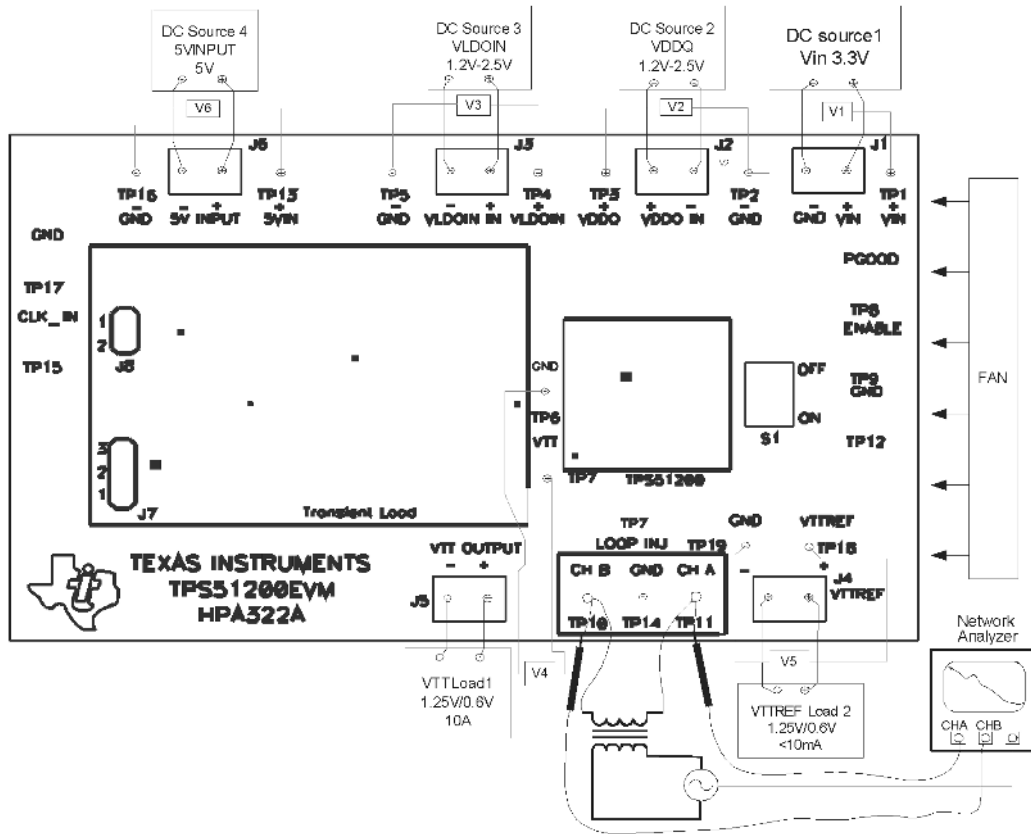

Figure 4. Control Loop Measurement Setup
TPS51200EVM contains a 10-Ω series resistor in the feedback loop. The control loop measurement set up as shown in Figure 4.
1. Set up EVM as shown in Figure 4.